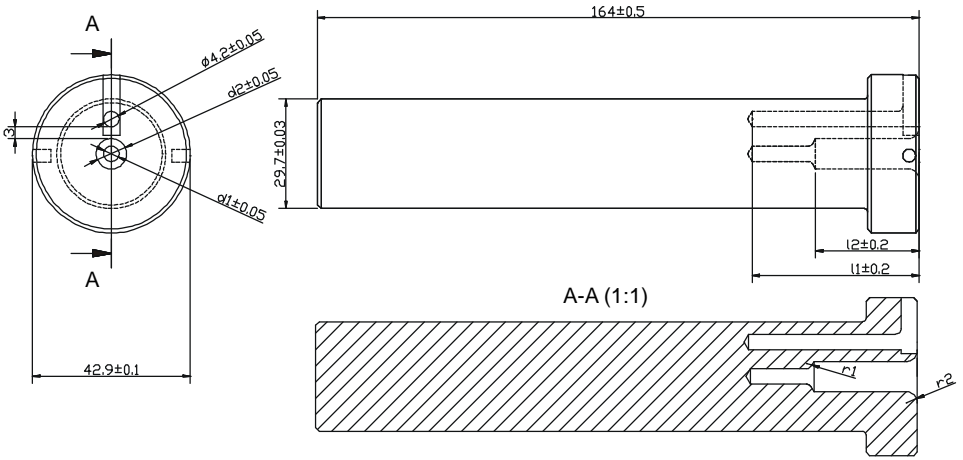

Fig. 4
2. The hole for the sensor is placed in the centre of the insert. The diameter is stated as the measured diameter + 0.2 mm. The tolerance of the diameter must be ± 0.05 as indicated in fig. 4.
4. The hole for the reference probe must be similar to the total length of the sensor “l1”, see fig. 4. The diameter of the hole for the reference probe is $\varnothing 4.2$ mm as indicated in fig. 4.